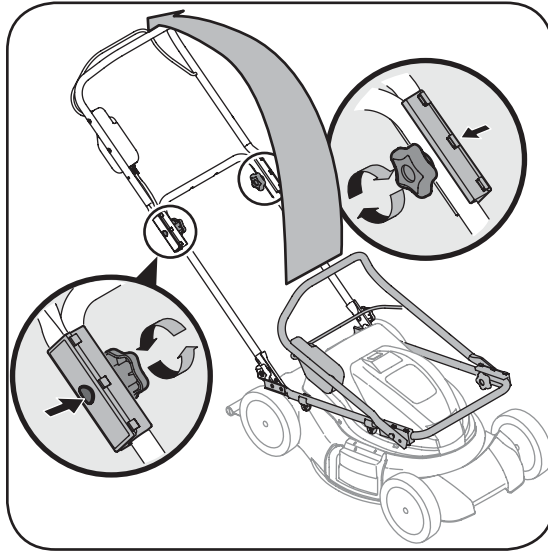

Figure 4-1
- b. Gently lift and pivot the upper handle into the operating position as shown in Figure 4-1.